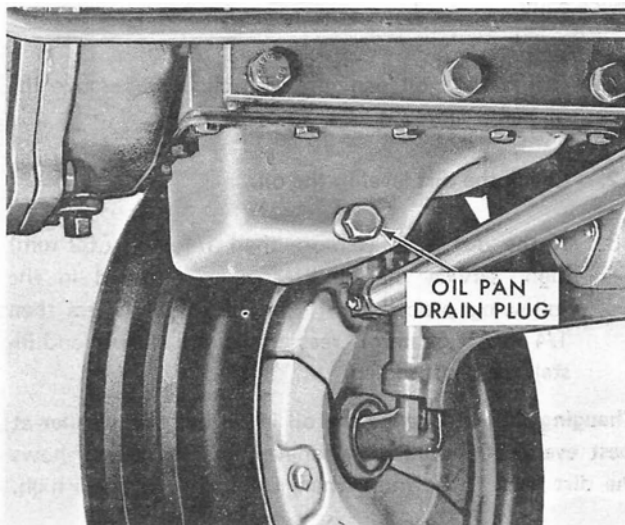

Figure 24
1. With the engine off, but at normal operating temperature, drain and discard the engine oil by removing the drain plug, Figure 24. Reinstall the plug after the oil has drained and discard the oil.